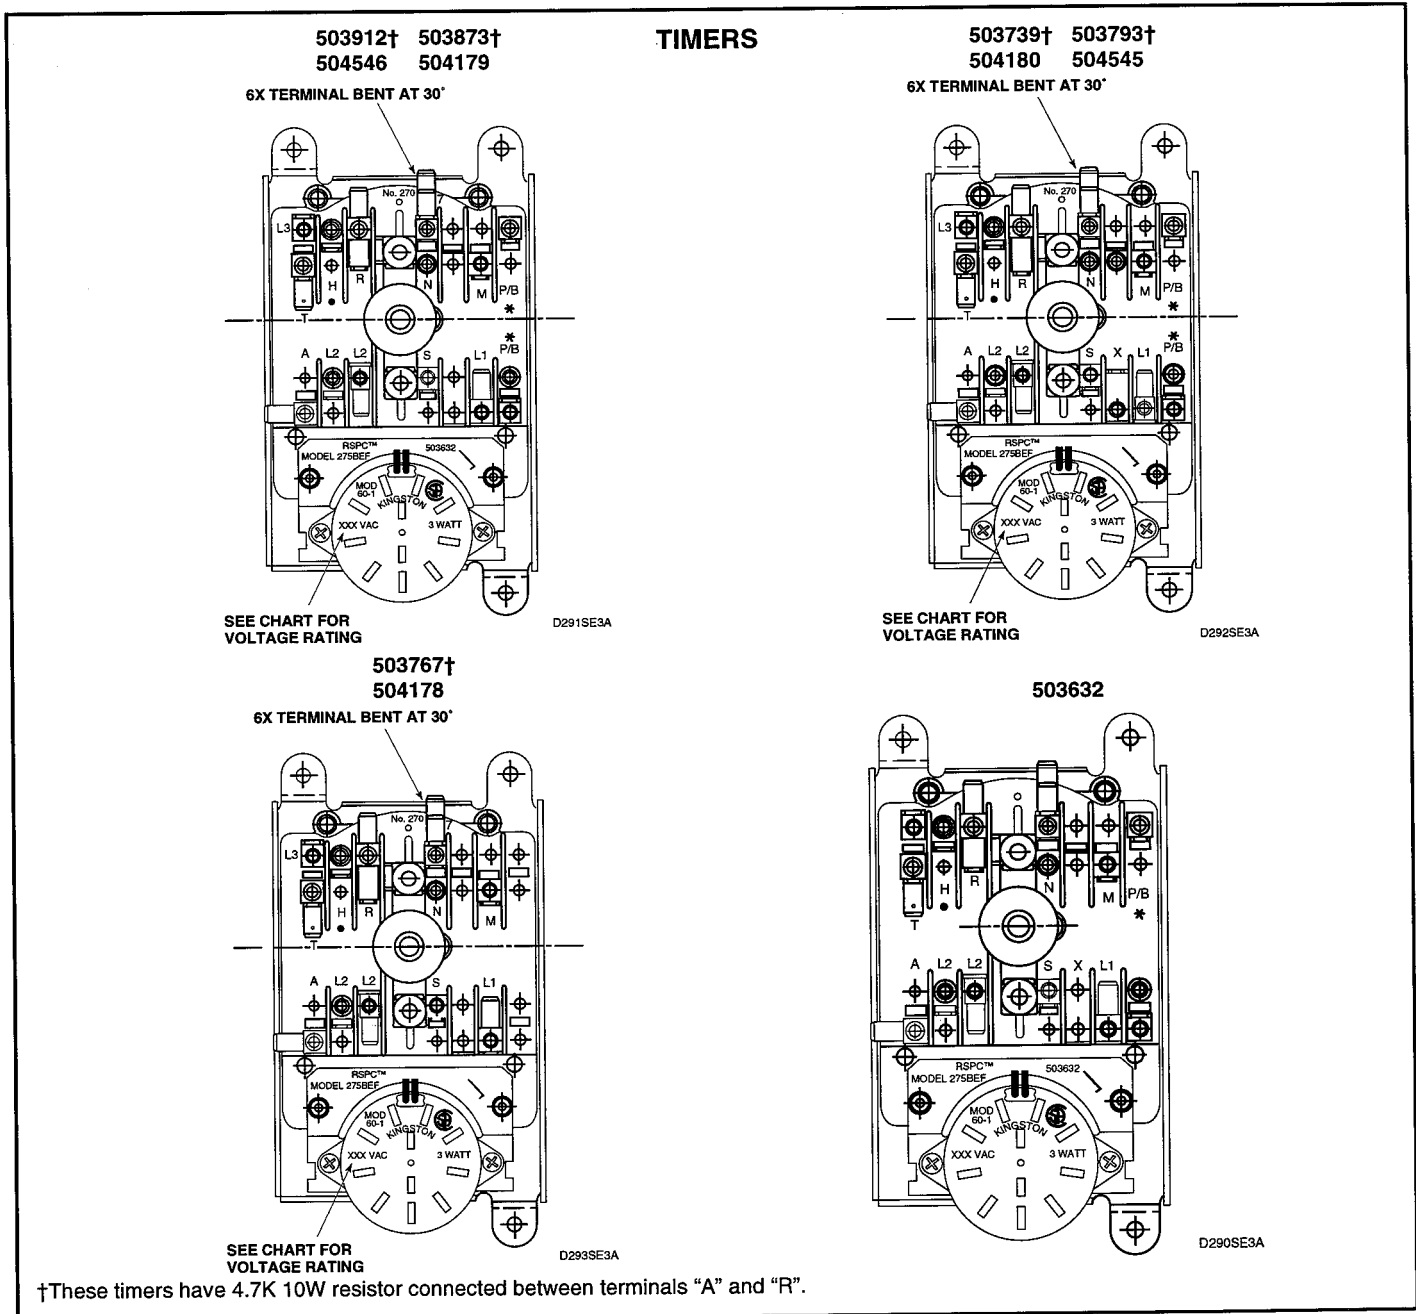

Figure 7-7
10. TIMER ADVANCE AND TIMER CONTACT POINTS (FIGURE 7-7)
- c. Set test meter to read Ohms and apply meter probes to terminals. See figure 7-7.
- d. Starting with timer knob indicator in OFF position at top of timer, slowly turn timer knob clockwise until indicator is again pointing toward OFF position at top of timer. Meter should register "zero" reading when circuit being tested is completed by timer. Refer to figure 7-7 for Timer Cycle Chart showing when circuit is made.